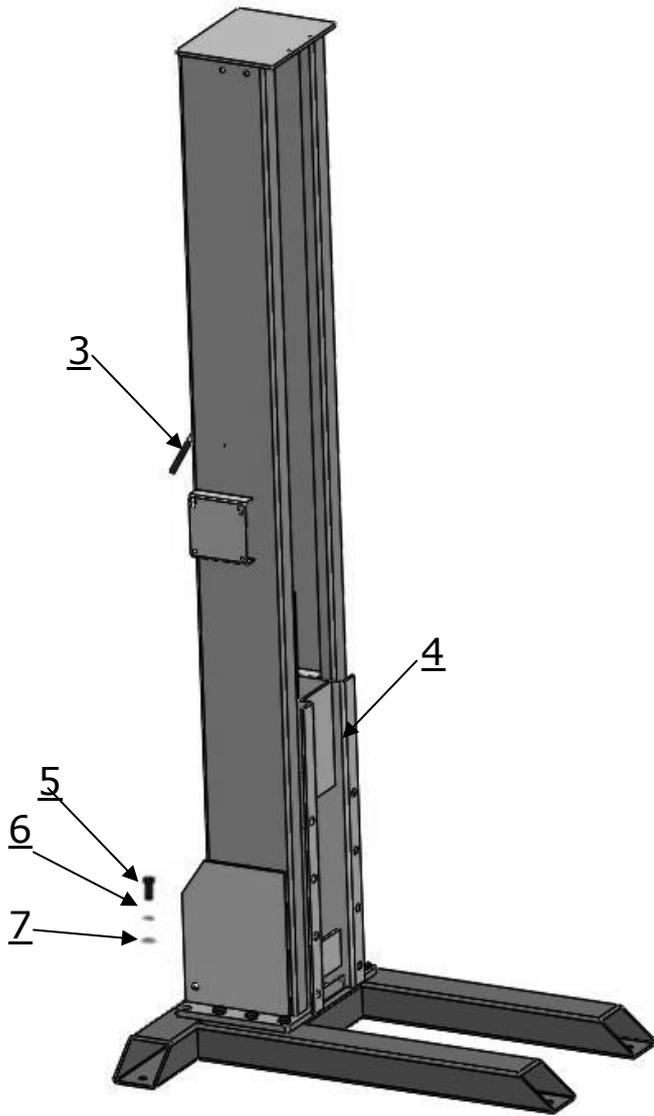

Fig.12
3. Fix column to the base plate. (See Fig.12)